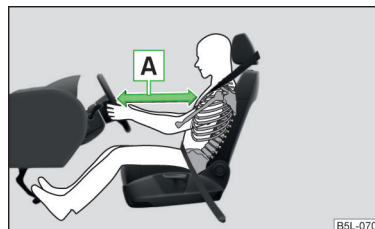

Fig. 22
- It is important for the driver and front passenger to maintain a minimum distance of 25 cm from the steering wheel or the control panel » Fig. 22 - A. If you do not observe this distance, the airbag cannot protect you - risk to life! The front seats and the head restraints must always be correctly adjusted to match the body size of the occupant.